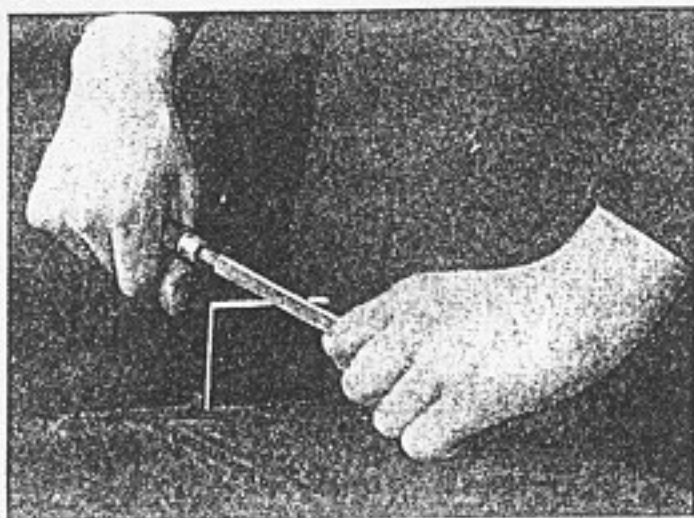
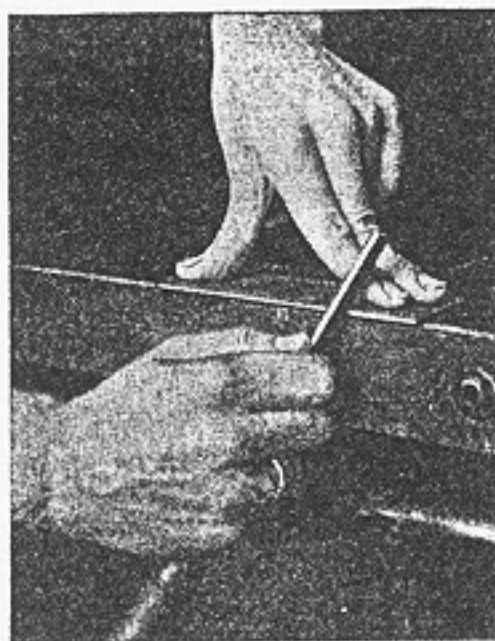

Fig. 21. Bending edge of cabinet scraper with burnisher.
Fig. 26. Turning edge of hand scraper, holding it flat over the edge of the bench.
2. To bend or turn the edge, the scraper is clamped in a bench vise. The burnisher is held so that it is in contact with the whole bevel; it is raised slightly, and moved across the edge of the blade with a light pressure. The burnisher is elevated more in the succeeding two or three strokes until it forms an angle of about 15 deg. with the horizontal (Fig. 21). The best results are obtained when the scraper has a keen edge before bending. A drop of oil should be rubbed on the burnisher.
between boards and turn the edges in the same way as the edge of a cabinet scraper is turned (Fig. 21). Still another way is for the worker to hold the scraper flat over the edge of the bench and draw the burnisher toward himself upward over its edge (Fig. 26). The scraper is then reversed and its other edge bent in the same way.